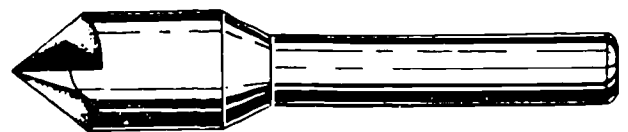

Figure 2-5. Countersink.
**Countersinks.** Countersinks are used to bevel edges of holes so that rivets or bolts with countersunk heads can be inserted. This allows the rivet or bolt heads to be flush with the surface of the metal. Figure 2-5 shows a countersink that can be used with hand or power drills. These countersinks are available in various bevel angles, which should match the bevel of the rivet or bolt to be installed.
**Reamers.** Tapered reamers, such as those illustrated in figure 2-11, have several uses in sheet metalwork. They are useful for enlarging holes and removing burrs. These reamers have tapered spiral flutes with cutting edges somewhat similar to the countersink you saw in figure 2-5. One of the reamers illustrated in figure 2-11 is turned by hand, and two are used with a carpenter's brace. The size and shape to select for enlarging holes or removing burrs from sheet metal is determined by the diameter of the holes. Tapered reamers are frequently used to ream the ends of tubing or pipe which have been cut. Earlier in this course, you learned that burrs should be removed from holes prior to installing rivets. Removing burrs is also a good safety practice because they are sharp and may snag flesh and clothing. When using reamers to enlarge holes or to remove burrs, be careful not to use too much force, because this causes the reamer to take too large a "bite" and remove too much metal which results in a hole that is oversized or beveled.